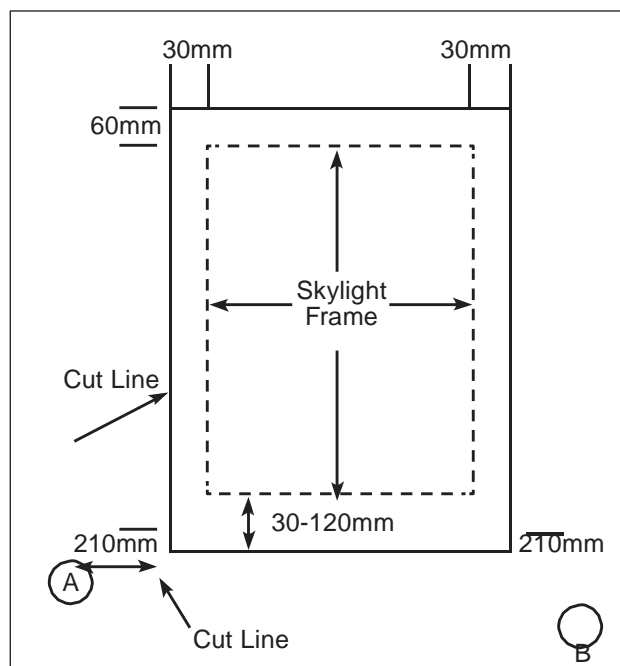

Fig 16
- 23) Cut the roofing material as shown in the diagram (cut line). Provide clearance as shown (see Fig 16). Overcut the lower cut, 210mm long, at the bottom two corners as shown. This allows the mat to pass through the metal sheet. NOTE: Ensure the bottom two cuts finish on the high point of the roofing profile shown in Fig 16 - A and B. Ensure the skylight frame is 90 - 120mm from the lower cut line.